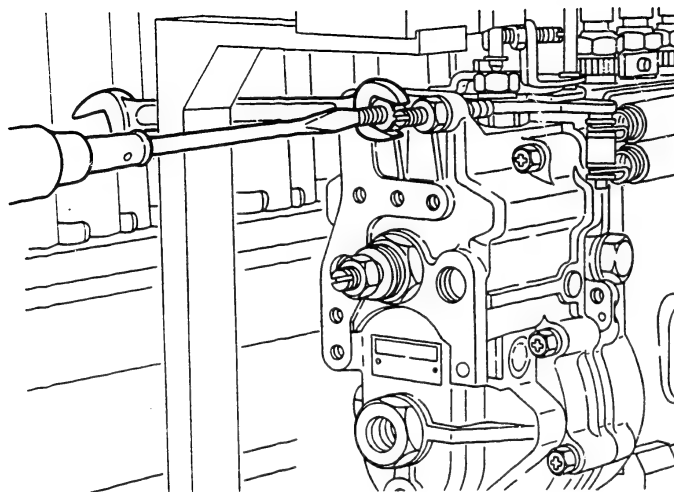

Fig. 139 Temporary setting of the control lever
While maintaining a pump speed of 80 - 100 rpm, adjust the idling setting bolt (174) (Figs. 139 and 140) so that the control rack will be at position Ra mm..